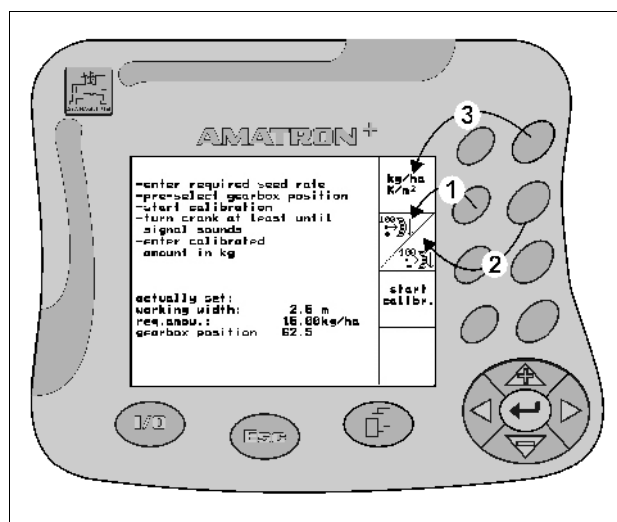

Fig. 9
- the left hand key relates to the top left function icon (Fig. 9/1).
- the right hand key is related to the bottom right hand function icon (Fig. 9/2).
If a complete icon appears on the display only the right hand key relates to that function (Fig. 9/3).